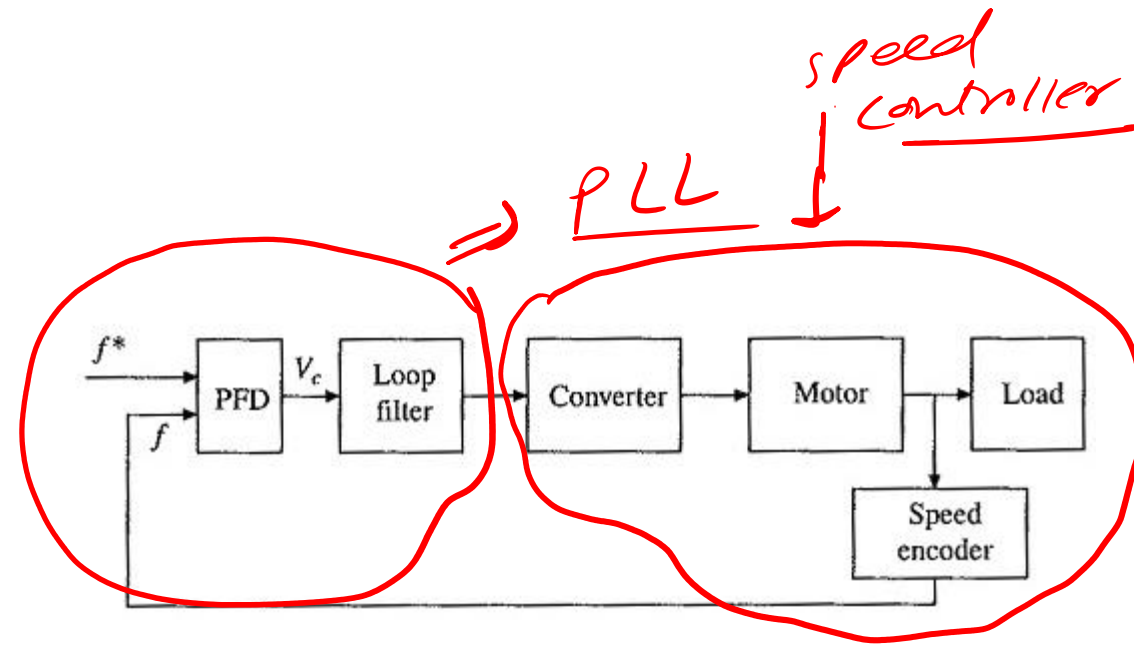

Fig. 5. Closed loop speed control using PLL.
- An electrical drive employing Phase Locked Loop Control is shown in Fig. 5. The VCO is replaced by converter, motor and speed encoder.